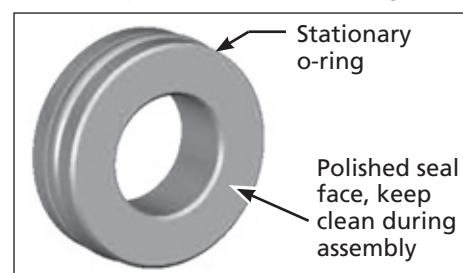

Figure 8
1. Obtain a new mechanical seal rotating assembly and seat (reference numbers 8a and 8b on page 11). Seal parts must be replaced as a set. Do not mix old and new parts. Lubricate seal stationary o-ring with a very small amount of dish soap. Do not allow soap, dirt, grease, or any contaminant on the polished seal face (see Figure 8).